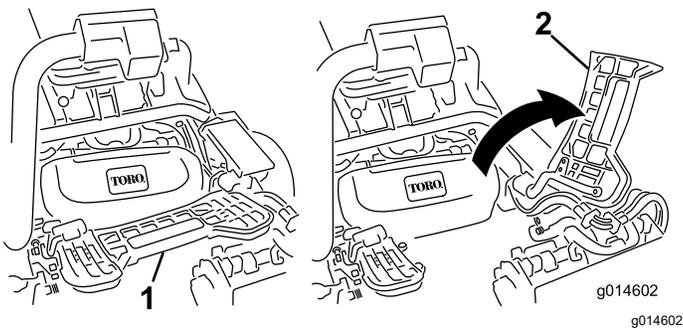

Figure 52
2. Lift up on the foot rest and swing it open, allowing access to the center cutting unit position (Figure 52).